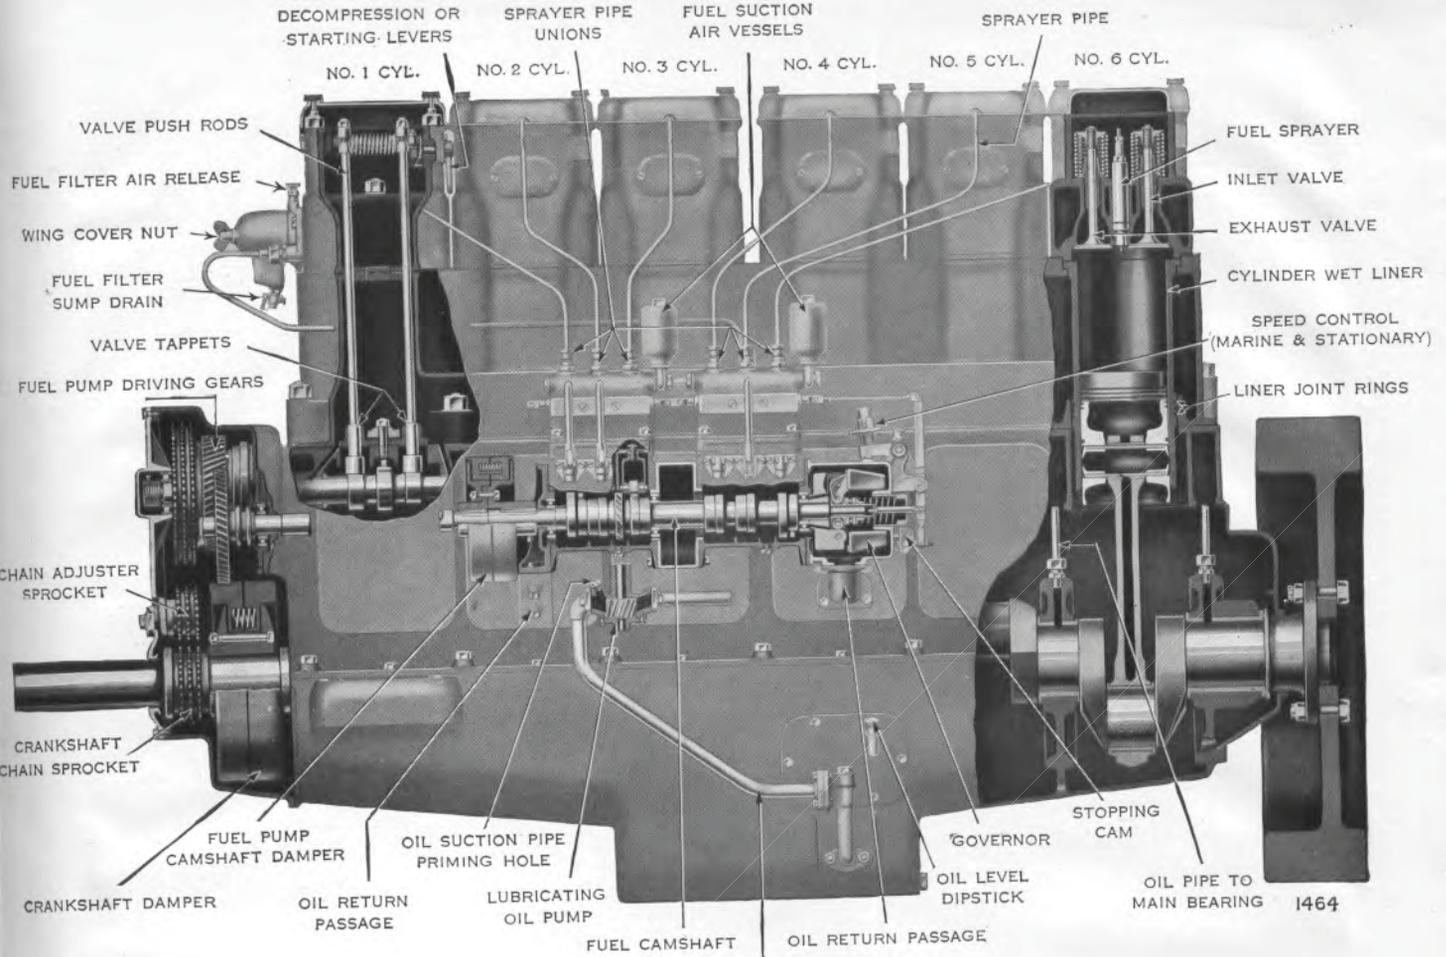

Fig. 11
- 95·2 **Removing and Refitting Cylinder Wet Liners.**—The liners (Fig. 11) are only a push fit in the cylinders (water jackets) and held in place by the cylinder head. The water joint at the lower end is made by two rubber rings, each one of which is fitted in the outer of three grooves turned in the liner, the centre groove forms a drain and communicates with a small hole in the water jacket. The purpose of this hole is to give visible warning, on the outside, if at any time the first or top joint ring should leak. The top water joint is metal to metal, and is made with the addition of a little paint or jointing compound.
101. **Timing of Valves.**—When reassembling an engine after an overhaul, it is of the utmost importance to pay special attention to the timing of the valves with relation to the crankshaft, for if the timing be not in accordance with the timing marks on the flywheel and the timing gears, the valves will foul the pistons and **serious consequences will result.** For this reason, it is desirable, during timing to place the lower end of the tappet rod (Fig. 11) in the cam-tappet socket and not to push the upper end under the valve rocker